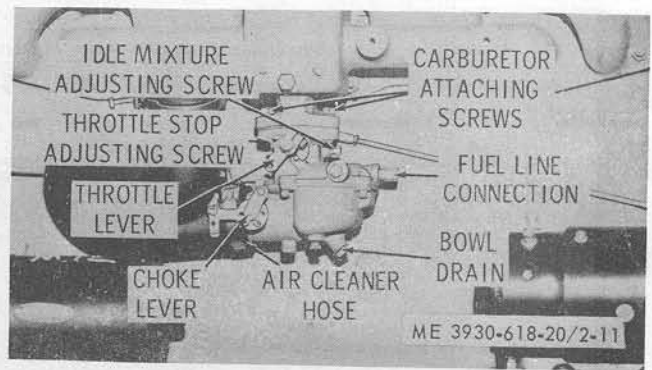

Figure 2-11. Carburetor, installed view.
a. Removal. Refer to figure 2-11, and remove the carburetor as follows:
- (1) Remove the left side panel.
- (2) Remove the air cleaner (para 2-16) and the connecting hose.
- (3) Disconnect the fuel inlet line at the carburetor.
- (5) Disconnect the choke control cable at the carburetor (fig. 2-11).
- (6) Remove the 2 nuts and lockwashers securing the carburetor to the intake manifold and remove the carburetor.
- (1) As initial adjustments, before starting the engine, turn the idle stop screw (fig. 2-11) in against the stop to hold the throttle slightly open and set the idle mixture adjustment screw at approximately midposition.
- (2) Turn the idler speed adjustment screw (fig. 2-11) in against the stop to hold the throttle slightly open. Set the idle mixture adjustment screw at approximately midposition.
- (3) Start the engine and allow it to warm up to normal operating temperature.
- (4) Gradually turn the idle mixture adjustment screw in until the engine begins to miss; then turn it out until the engine begins to run unevenly.
- (5) Turn the idle mixture adjustment screw in to a point midway between the two points reached in (4) above or until the engine runs smoothly.
- (6) With the idle stop adjustment screw, set the idle speed at 500 to 550 rpm.
- (7) Readjust the idle mixture as necessary to achieve smooth engine operation at normal idle speed.